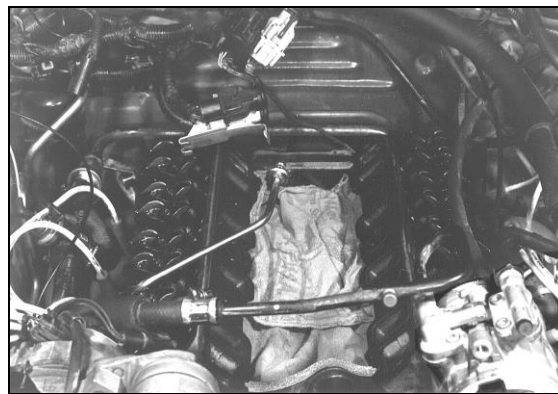

Figure 5
- Remove the lower intake manifold and place a clean shop rag or towel over the engine valley to prevent dirt and contaminants from getting into the engine. See Figure 5.